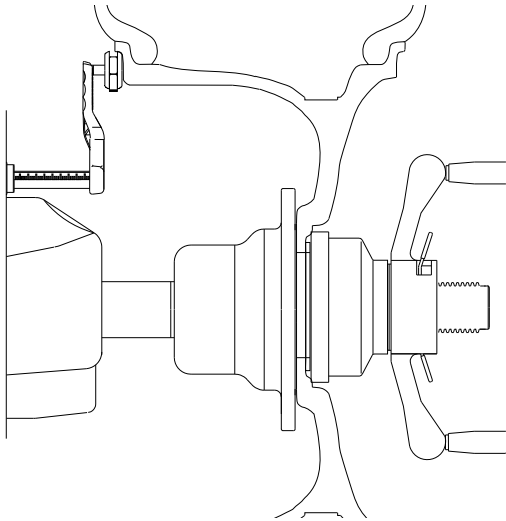

Figure 22
4.5.1 Rim Distance (offset) - Move the rim offset arm to the edge of the rim, touch the pointer to the rim edge as illustrated in Figure 22 and hold steady for about a second. The beeper will sound when the distance values are calculated and entered. Return the arm to its fully in and down position on the balancer. Do not allow the measurement arm to "dangle" down in front of the balancer.